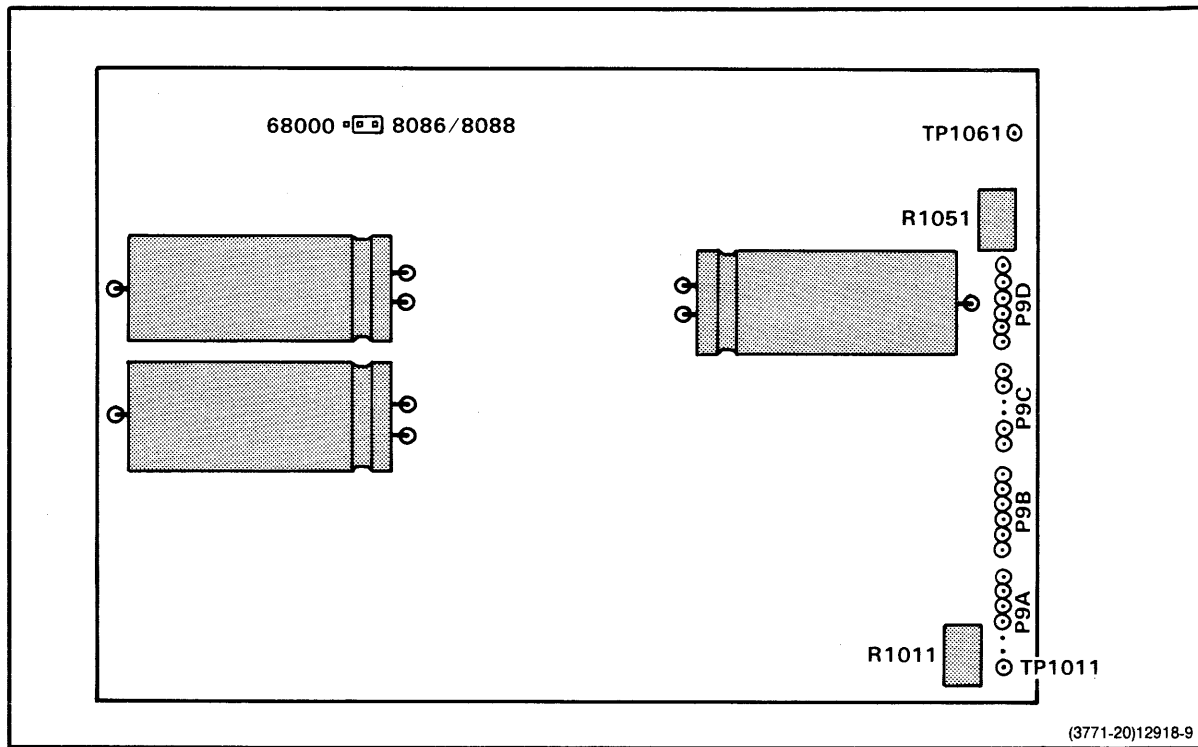

Fig. 4-5. Probe Power Supply Board.
4. Connect the DMV's positive test probe to TP1061 on the Power Supply Board. (See Fig. 4-5).
10. Connect the DMV's positive test probe to TP1011 on the Power Supply Board. (See Fig. 4-5.)